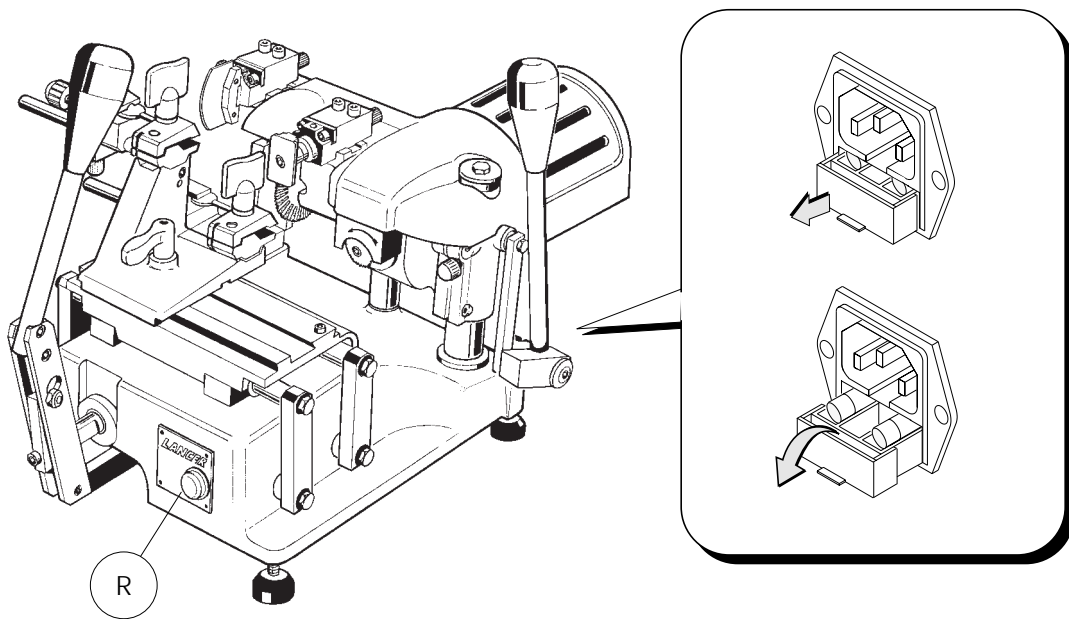

Fig. 28
- 1) switch off the master switch (R) and remove the mains plug.
- 2) pull the fuse board and rotate it (fig. 28).